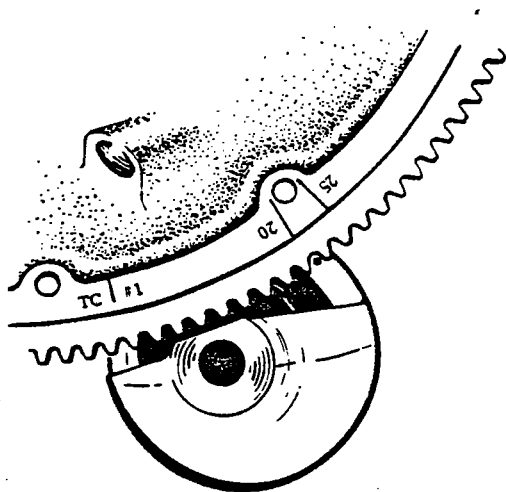

Figure 74-3. Engine Timing Marks
2. Continue turning the crankshaft until the 20° advance timing mark is in alignment with the small hole located on the top face of the starter housing at the two o'clock position. (Refer to Figure 74-3.)